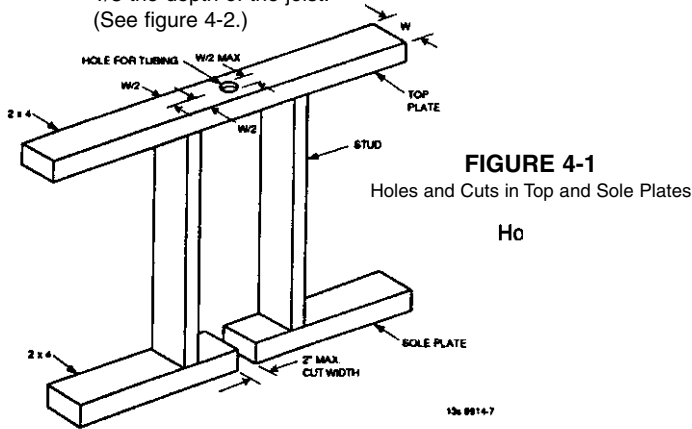

FIGURE 4-1
- The size of the hole drilled through top plates, top frame members, and sole plates, to allow the vertical passage of the tubing, shall not exceed 1/2 of the width of the member. The hole should be bored through the center of the member. (See figure 4-1.)
- Where soles or plates are cut for tubing, the width of the cut shall be 1/2 in. (12.7 mm) larger than the outside diameter of the tubing but not greater than 2 in. (50.8 mm), and the tubing must be protected with a listed striker plate of the appropriate length and width installed in accordance with the manufacturers installation instructions. (See figure 4-1.)